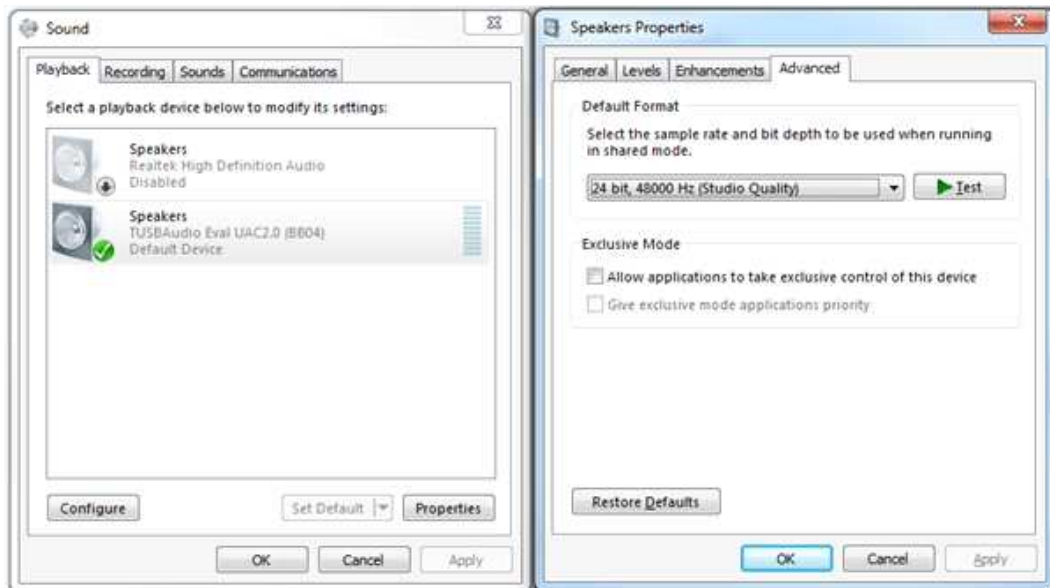

Figure 2. Playback Device Settings
- Verify that the EVM is the default playback device by opening the sound dialog from the *Windows Control Panel* as shown in Figure 2.
6. Verify that the EVM is the default playback device by opening the sound dialog from the *Windows Control Panel* as shown in Figure 2.